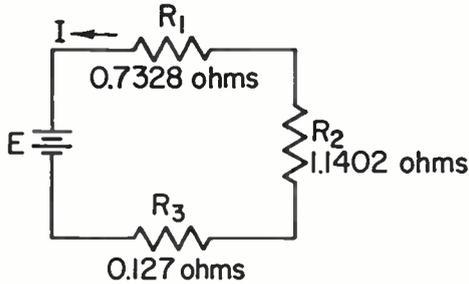

Fig. 3
3. (a) In Fig. 3, if $R = R_1 + R_2 + R_3$, $R =$ _____.